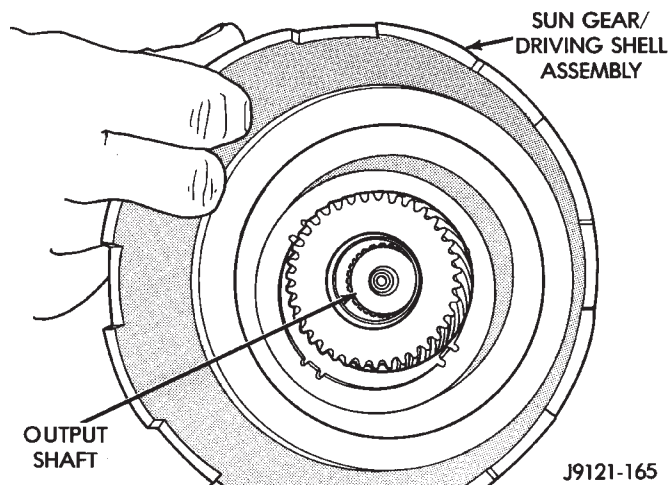

Fig. 174 Installing Assembled Sun Gear And Driving Shell On Output Shaft
(12) Install assembled driving shell and sun gear on output shaft (Fig. 174).